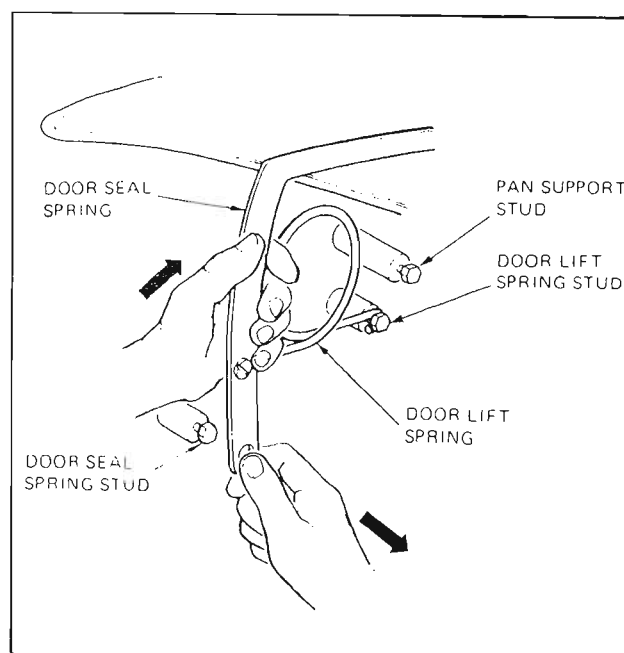

Figure 6-1. Door Spring Disengagement
2. Disengage left and right ends of door seal spring by counter-acting the force of the door lift spring with one hand while disengaging studs with the other hand (Figure 6-1).